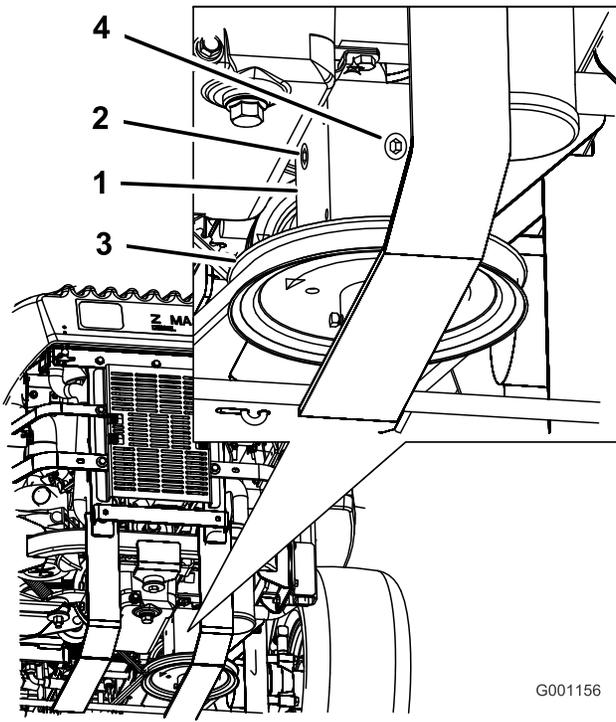

Figure 80
3. Remove the side or rear plug on the gearbox (Figure 80).